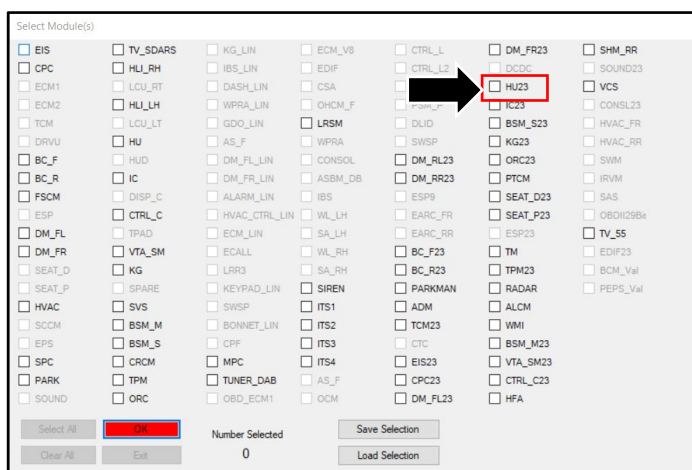

Figure 19
31. Select the "HU23" module then click the "OK" button (refer to Figure 19).